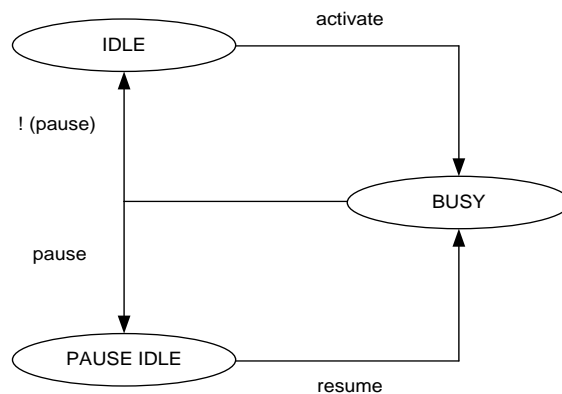

Figure 2-9 Operation flow with or without PAUSE mode
- Unlimited length for transmission. This is achieved by the operation of PAUSE mode. In PAUSE mode, the CS_N signal will keep being active (low) after the transmission. At this time, the SPI controller is in PAUSE_IDLE state, ready to receive the resume command. The state transition is shown in Figure 2-9